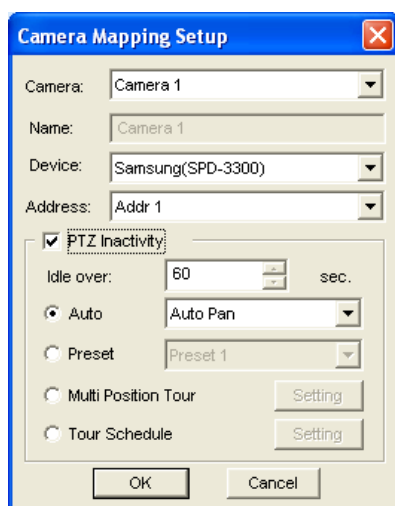

Figure 1-70 Camera Mapping Setup
1. Select **Tour Schedule** on the Camera Mapping Setup dialog box (Figure 1-70), and click the **Setting** button. This dialog box appears.
Note: It is required to set more than one span so that a specified camera behavior will only run in the defined time frame. Otherwise, you can select the **Auto**, **Preset** or **Multi Position Tour** option (see Figure 1-70) to configure the idle protection.